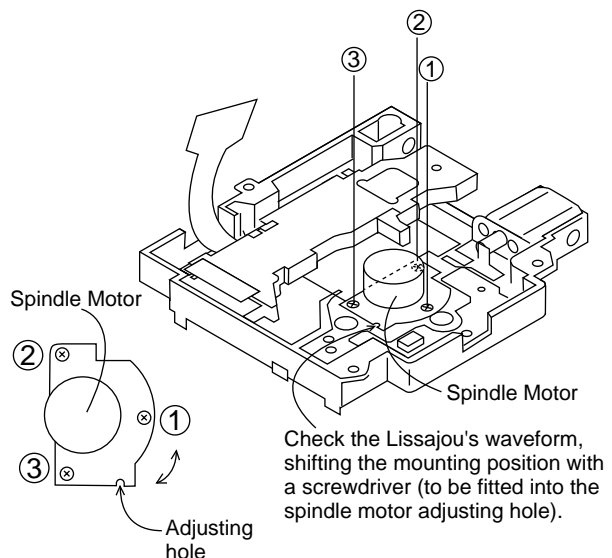

Figure 30-4
2. After adjustment, tighten screws 1, 2, and 3 in numerical order. (See Fig. 30-4.)